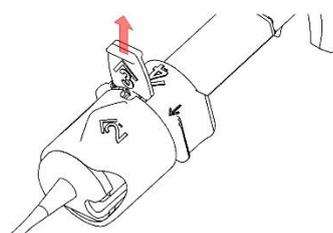

Fig. 2b
5. Remove the red stopper indicated with '3' by pulling and discard it (Fig. 2b).